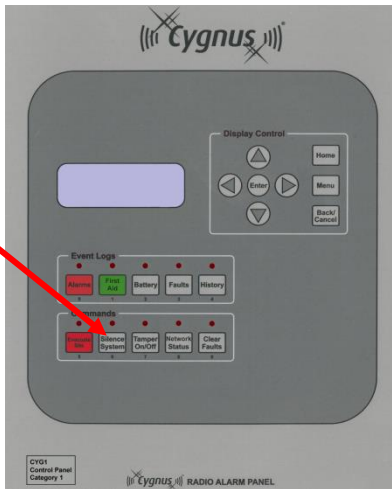

Figure 7-39: Control Panel showing the Silence System button
1. Press the **Silence System** button (Figure 7-39).